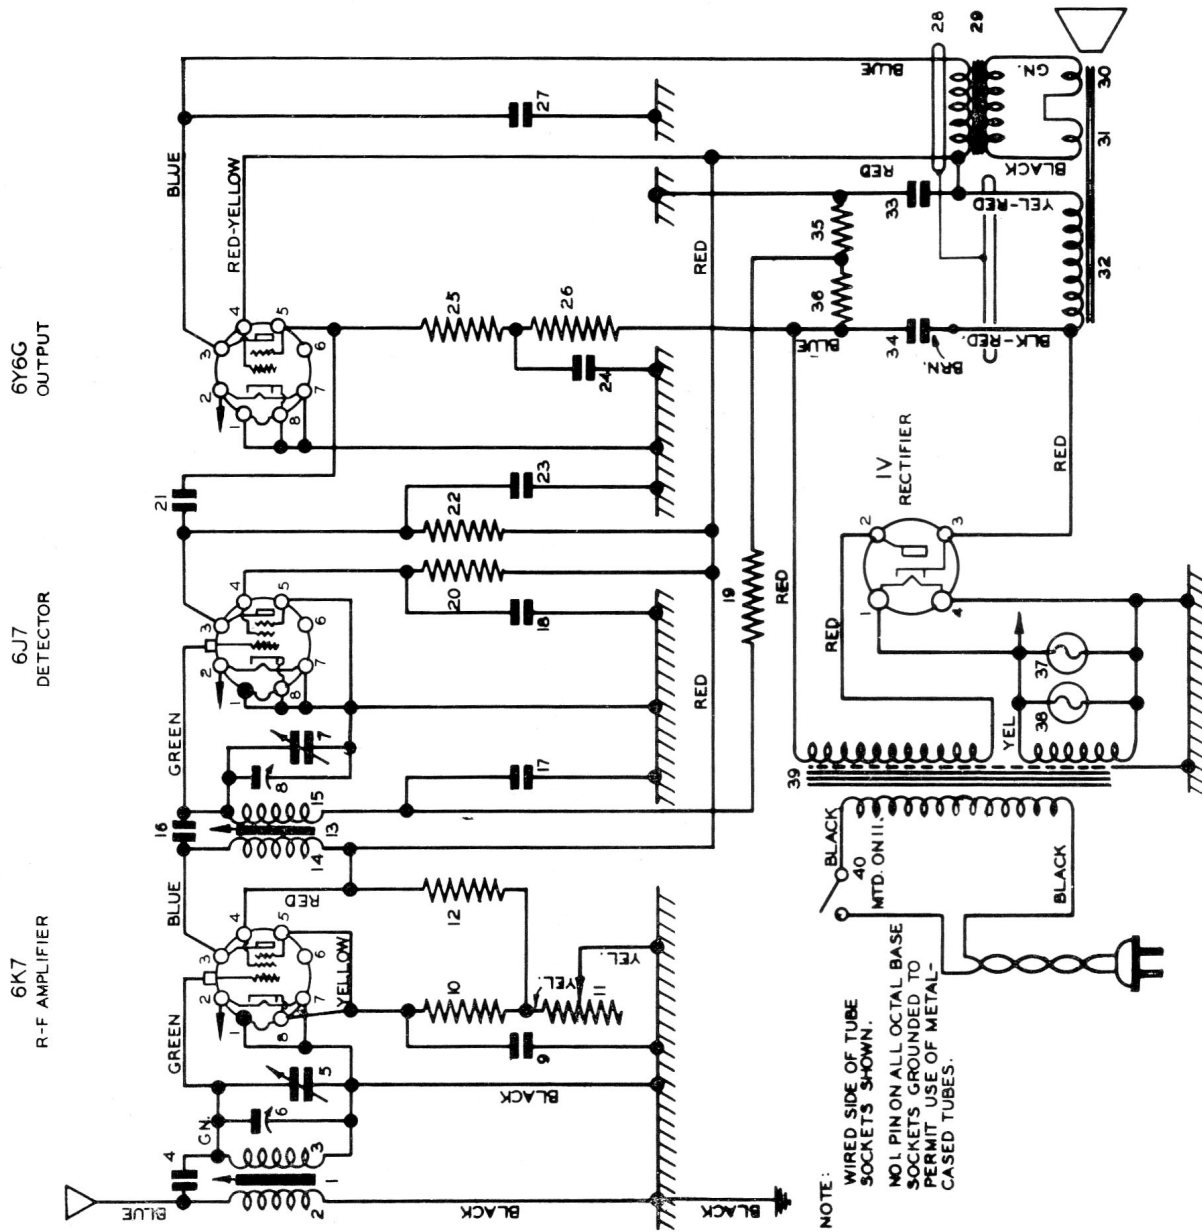

Figure 2—Model 430 Schematic Circuit Diagram
CIRCUIT:—(Refer to fig. 2 — Schematic Circuit Diagram.) The circuit is of the tuned-radio-frequency type, using iron-cored antenna and R.F. transformers. These adjustable iron cores are items 1 and 13, and their use is explained under "Alignment." The antenna and r-f sections of the tuning capacitor gang are items 5 and 7 respectively and items 6 and 8 are the trimmers.